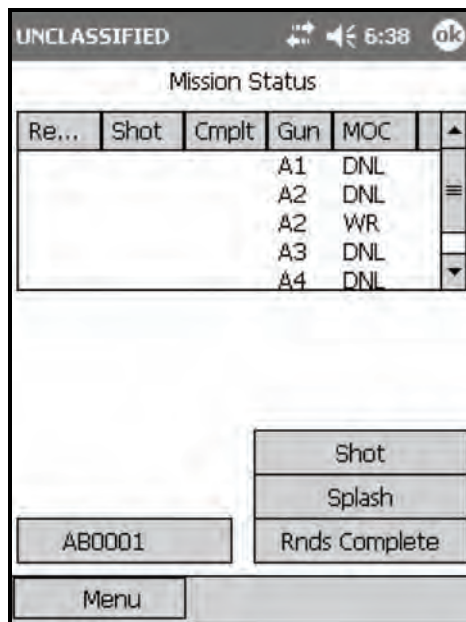

Figure 18-28. Digital Fire Mission: Mission Status screen.
- (21) Select the Msn Status button.
- (22) The Mission Status screen (Figure 18-28) displays. The Mission Status screen is only available for digital messaging. This screen contains a Status window and five control buttons (Table 18-11).